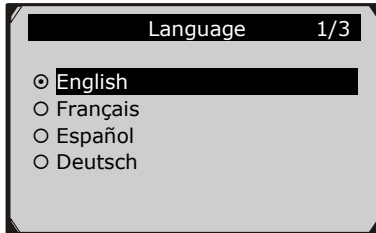

Figure 3.3
- 2) Use the **SCROLL** button to select the desired language and press the **ENTER/Exit** button to save your selection and return to previous screen. (Figure 3.3)